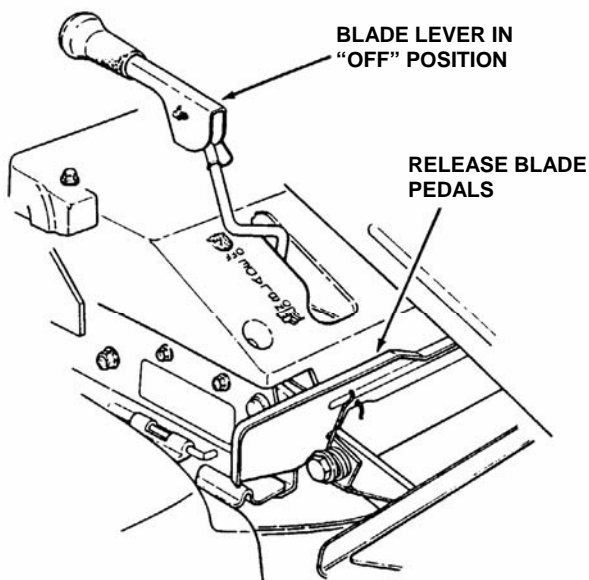
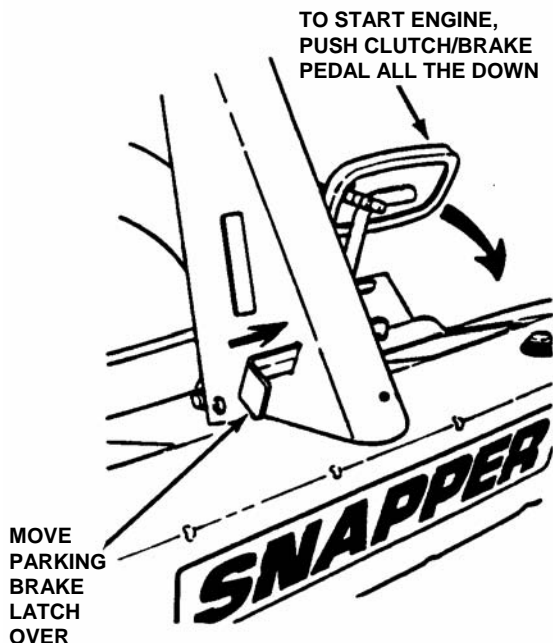

FIGURE 2.4
FIGURE 2.8
1. Move transmission shift lever to (N) Neutral position. DO NOT start engine with transmission shift lever in a drive position.
2. Make certain the Blade Lever is in the "OFF" position. See Figure 2.4.
IMPORTANT: When the ignition key is turned to "ON", and the recoil handle is pulled, the engine will turn over, but will not start unless the Clutch/Brake Pedal is pressed all the way down with Parking Brake engaged (See Figure 2.8) and the Blade Lever is in the "Off" position (See Figure 2.4). Start engine as follows:
3. Press Clutch/Brake Pedal all the way down, move Parking Brake Latch over and release the Clutch/Brake Pedal to set Parking Brake. See Figure 2.8.